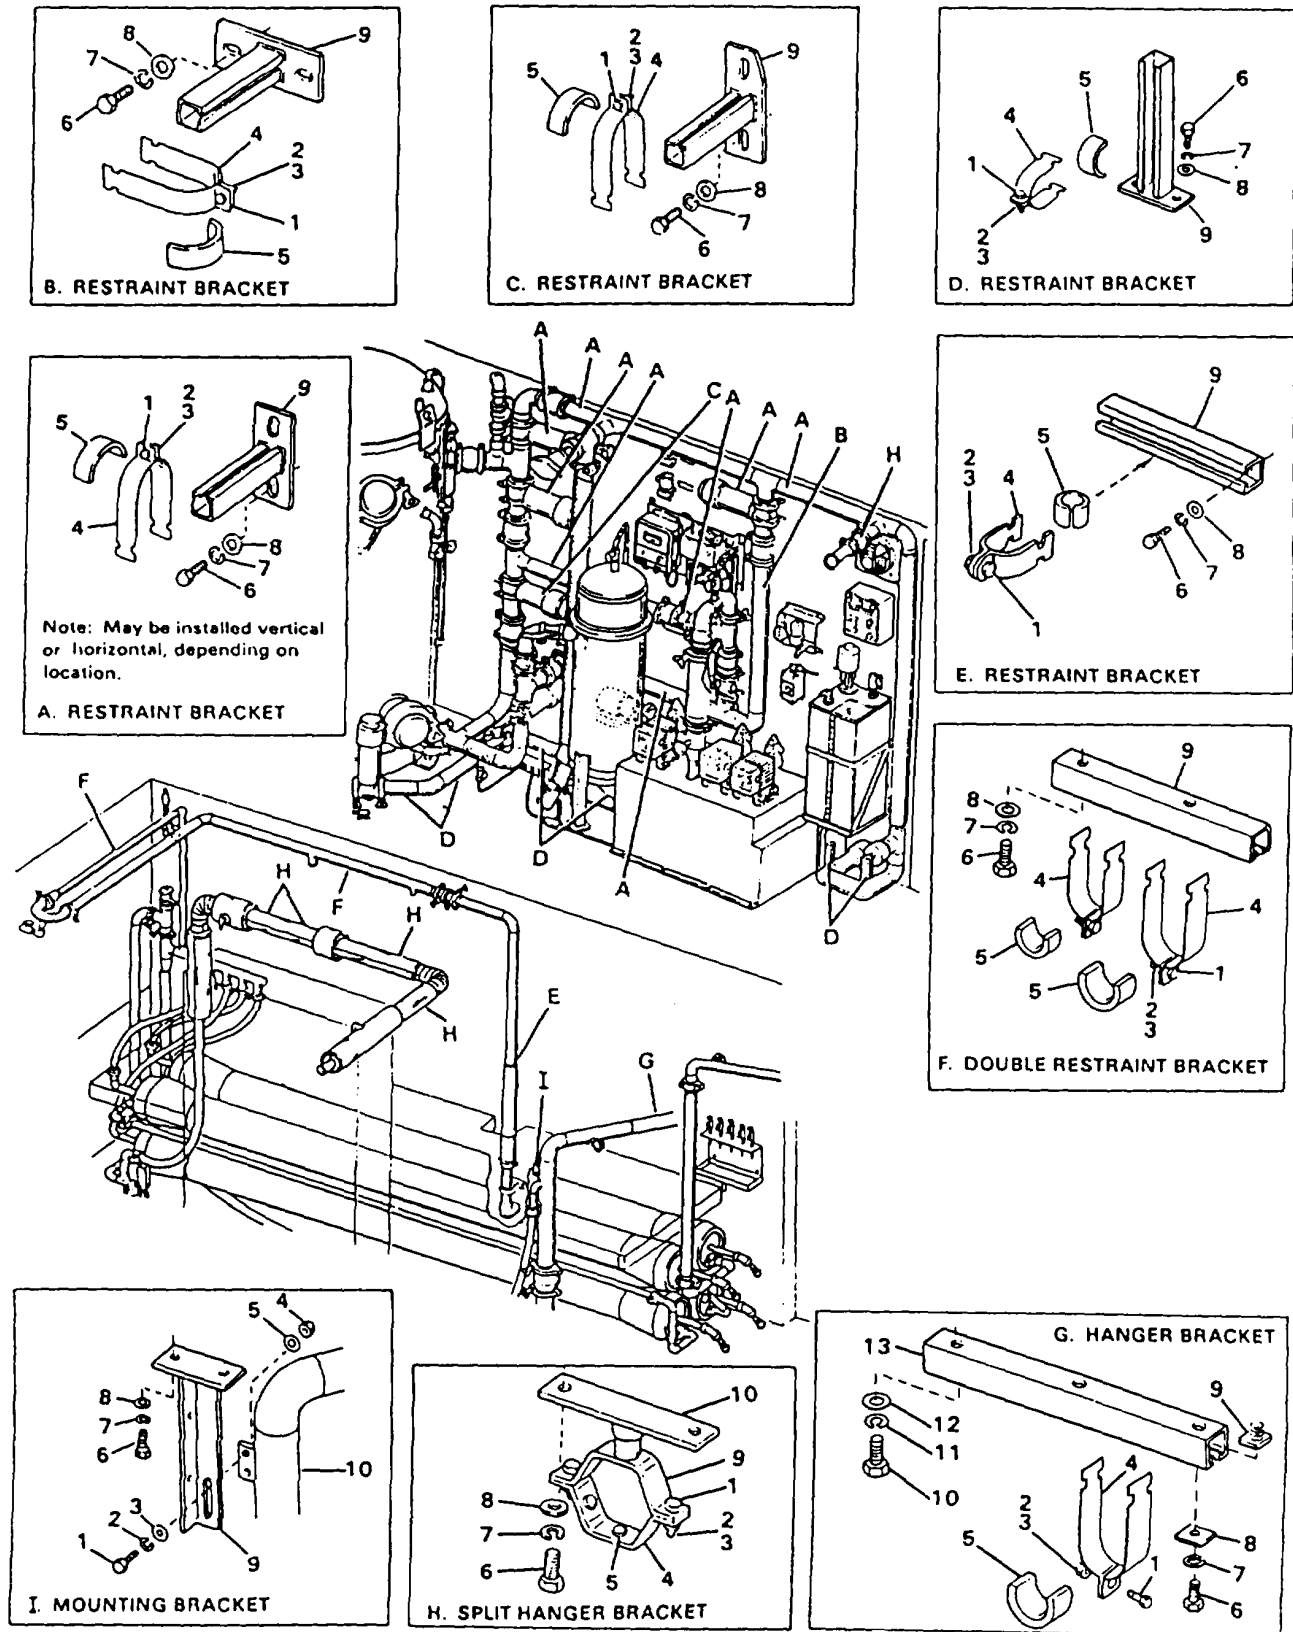

Figure 4-49. Low Pressure Piping (Sheet 1 of 8) Brackets
- a. Restraint brackets (Views A thru F, Figure 4-49, sheet 1).
- (1) Remove the screws (1), washers (2) and locknuts (3) that hold the two sections of clamps (4) together.
- (2) Remove hoses and/or piping from clamp halves (4) and slide the clamps (4) off the brackets (9).
- (3) Remove cushions (5).
- (4) Remove capscrews (6), lockwashers (7) and washers (8) and remove brackets (9).